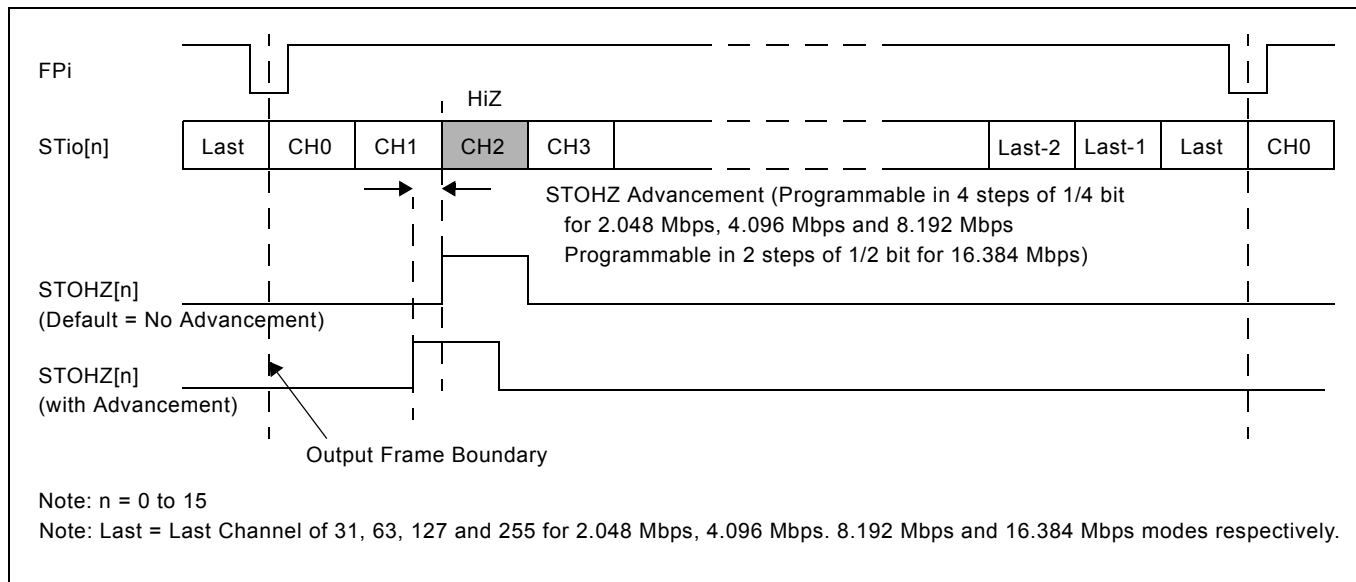

Figure 16 - Channel Switching External High Impedance Control Timing
There are 16 external high impedance control signals, STOHZ0 - 7, that are used to control the external drivers for per-channel high impedance operations. Only the first eight ST-BUS/GCI-Bus (STio0 - 7) outputs are provided with corresponding STOHZ signals. The STOHZ outputs deliver the appropriate number of control timeslot channels based on the output stream data rate. Each control timeslot lasts for one channel time. When the ODE pin is high and the OSB (bit 2) of the Control Register (CR) is also high, STOHZ0 - 7 are enabled. When the ODE pin, OSB (bit 2) of the Control Register (CR) or the  $\overline{\text{RESET}}$  pin is low, STOHZ0 - 7 are driven high, together with all the ST-BUS/GCI-Bus outputs being tristated. Under normal operation, the corresponding STOHZ outputs of any unused ST-BUS/GCI-Bus channel (high impedance) are driven high. Refer to Figure 16 on page 27 for a diagrammatical explanation.